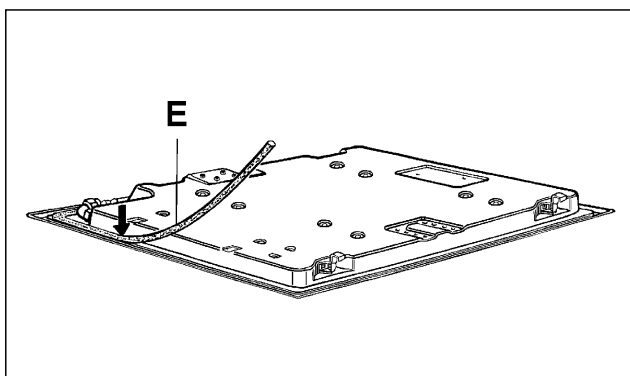

FIG. 7
- Overturn the hot plate and correctly position seal "E" (fig. 7) under the edge of the hot plate itself, so that the outer side of the seal perfectly matches the outer edge of the hot plate. The ends of the strips must fit together without overlapping.